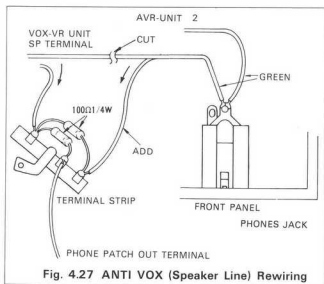
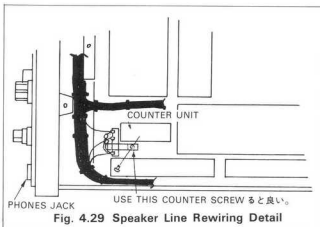

Fig. 4.27 ANTI VOX (Speaker Line) Rewiring
Fig. 4.29 Speaker Line Rewiring Detail
- iii) Cut the lead to the VOX-VR unit and connect it as shown in Fig. 4-27. The terminal strip can be secured to the Counter unit screw (Fig. 4-29).